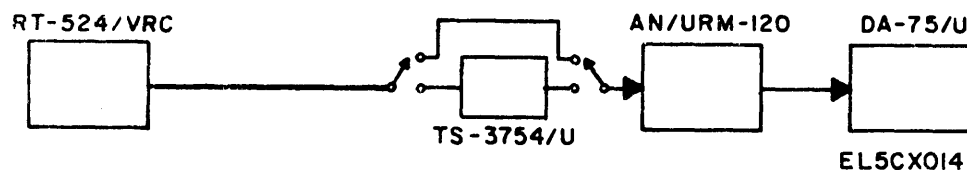

Figure 8-7. Insertion loss test setup.
- a. Setup equipment as shown in figure 8-7 and utilize table 8-4.